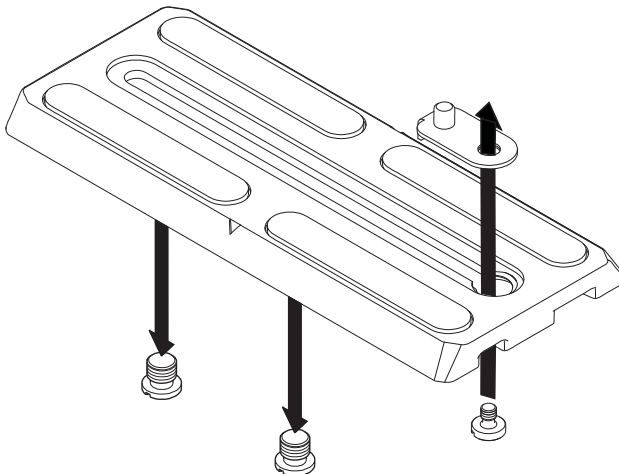

Fig. 7 Fitting the 1/4 in. pin adaptor assembly
Mount the 1/4 in. screw and pin adaptor (19) onto the top of the camera slide plate (16) with the 1/4 in. camera mounting screw from under the slide plate (Fig. 7).